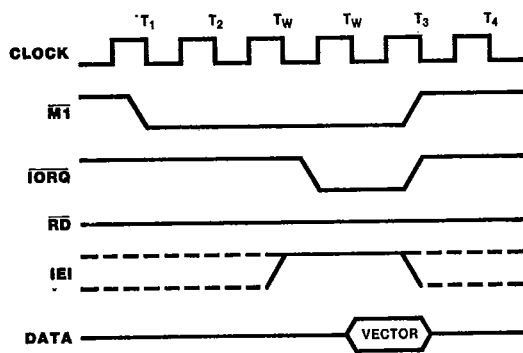

Figure 7. Interrupt Acknowledge Cycle
**Interrupt Acknowledge Cycle.** (Figure 7) After receiving an Interrupt Request signal (INT pulled Low), the Z80 CPU sends an Interrupt Acknowledge signal (M1 and IORQ both Low). The daisy-chained interrupt circuits determine the highest priority interrupt requestor. The IEI of the highest priority peripheral is terminated High. For any peripheral